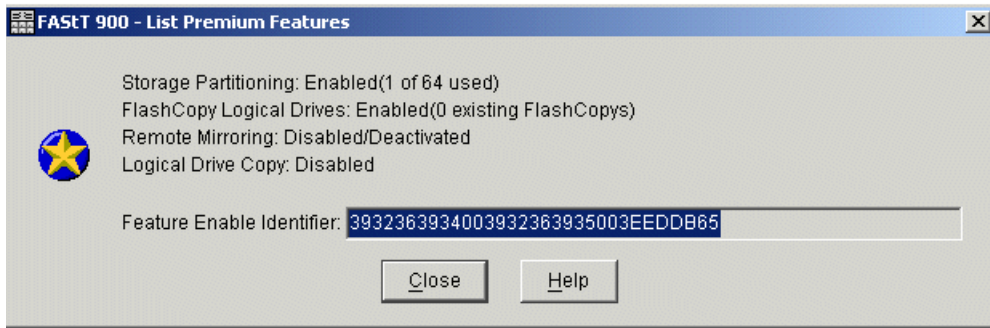

Figure 7-4 Premium features - FC Enabled
2. Verify that “FlashCopy Logical Drives:” indicates Enabled as shown in Figure 7-4 on page 203.